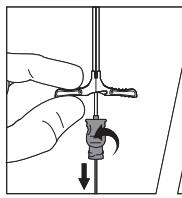

Figure 5
25. Holding sheath in place, remove guidewire and dilator as a unit (refer to Figure 5).